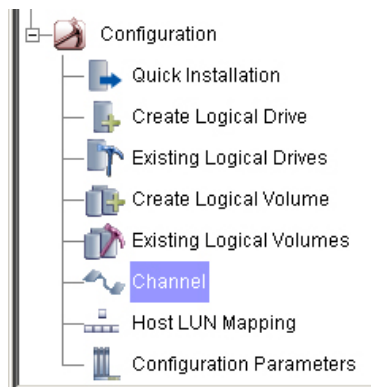

Figure 3-6: RAIDWatch Navigation Tree
Step 2. On the navigation tree panel on the left of the RAIDWatch screen, open the **Configuration** category and click on the **Channel** option. (See *Figure 3-6*)